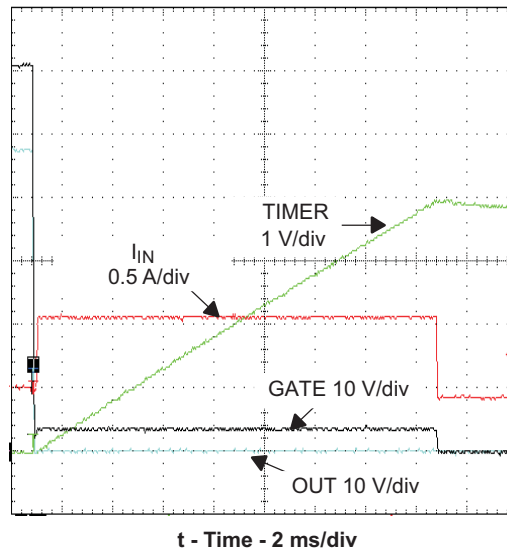
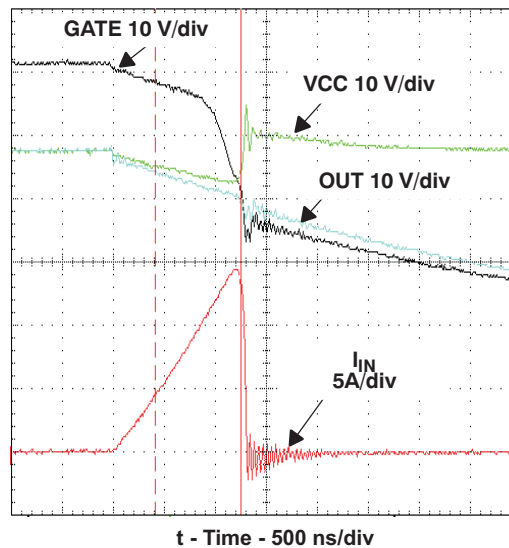

Figure 14. Current Limit Overview
Figure 15. Current Limit Onset
7.4.4 Response to a Hard Output Short (Figure 14 and Figure 15)
Figure 14 shows the short circuit response over the full time-out period. The period begins when the output voltage falls and ends when Q1 is turned off. Q1 current is actively controlled by the constant power engine and gate amplifier circuit while the TIMER pin charges C_T to the 4-V threshold causing Q1 to be turned off. The TPS2490 latches off after the threshold is reached until either the input voltage drops below the UVLO threshold or EN cycles through the false (low) state. The TPS2491 goes through a timing sequence before attempting a restart.
The TPS249x responds rapidly to the short circuit as seen in Figure 15. The falling OUT voltage is the result of Q1 and C_O currents through the short's impedance at this time scale. The internal GATE clamp causes the GATE voltage to follow the output voltage down and subsequently limits the negative V_{GS} to 1 V to 2 V. The rapidly rising fault current overdrives the GATE amplifier causing it to overshoot and rapidly turn Q1 off by sinking current to ground. Q1 slowly turns back on as the GATE amplifier recovers; Q1 then settles to an equilibrium operating point determined by the power limiting circuit.
Minimal input voltage overshoot appears in Figure 15 because a local 100- μ F bypass capacitor and very short input leads were used. The input voltage would overshoot as the input current abruptly drops in a typical application due to the stored energy in the input distribution's inductance. The exact waveforms seen in an application depend upon many factors including parasitics of the voltage distribution, circuit layout, and the short itself.